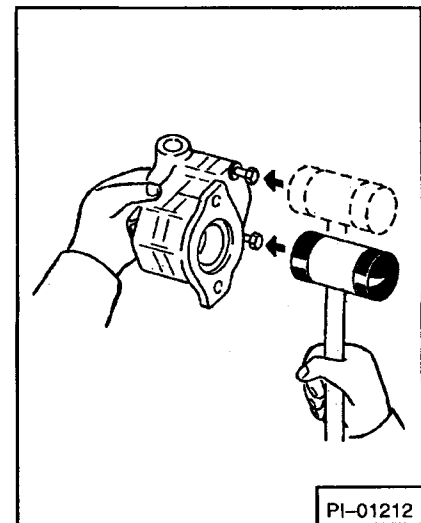

**Fig. 4-28** Remove Pilot Plate and Seal
3. Remove the pilot plate and seal (Fig. 4-28).